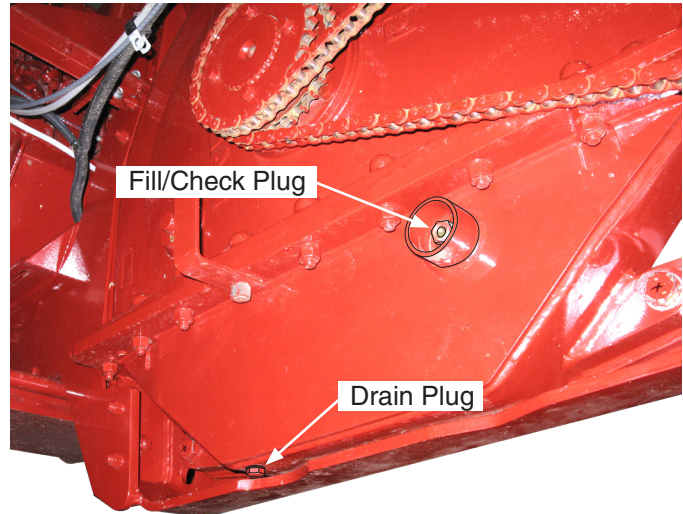

Figure 2 - Gearbox
With the baler sitting level, remove the fill/check plug. Oil should be level with the bottom of the opening (see Figure 2.) Add oil as necessary through the same opening. Replace plug and tighten securely.
2. Remove the drain plug from the bottom of the gearbox (see Figure 2) and let oil drain into catch pan.
4. Add new oil through the fill/check plug opening until the oil is level with the bottom of the opening (see Figure 2.) Replace plug and tighten securely.